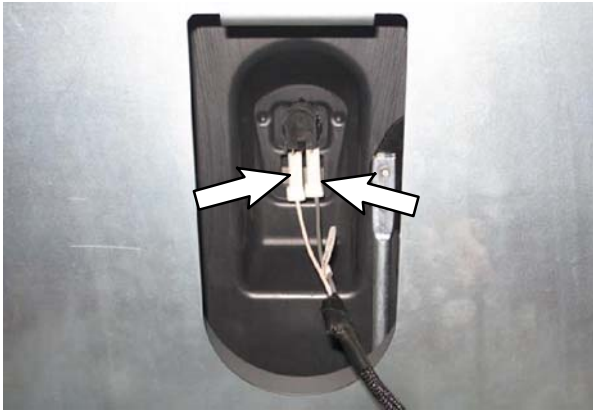

FIG. 1
1. Disconnect the seat switch wire harness from the seat switch. (Fig. 1)